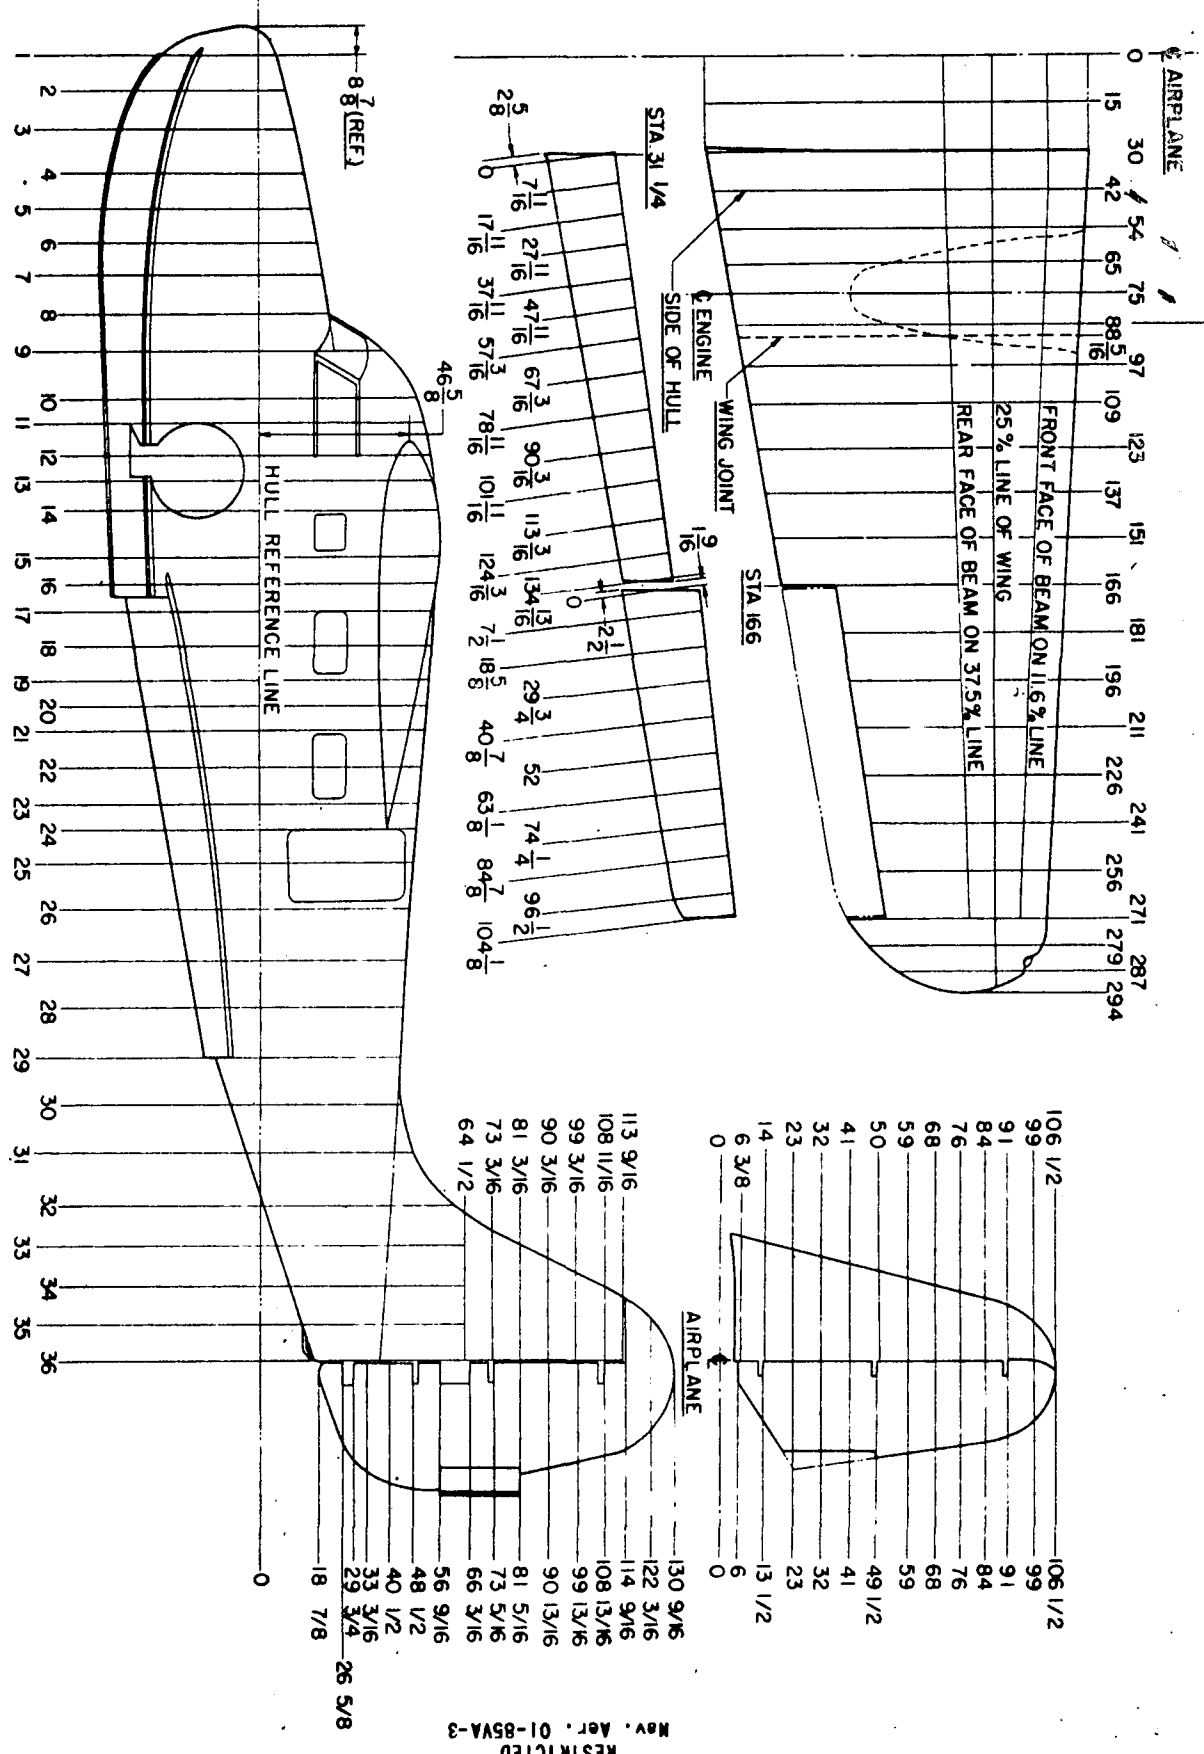

Figure 3 - Stations Diagram
- (1) Removed damaged section of hull skin from hull station 9.5 to hull station 16.5, as shown on Grumman Structure and Repair Manual NAV AER 01-85VA-3, Page 16, Figure 3.
- (2) Inspected structure and replaced hull bottom "Z" Angles per Grumman Structure and Repair Manual Section 4, Pages 111-117.